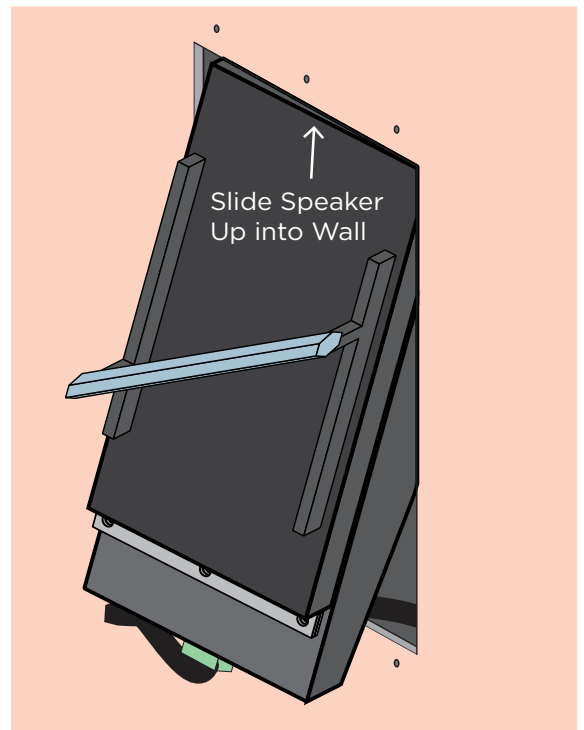

Figure 10.
2. Grasp the installation handle mounted on the speaker and insert the speaker into wall. Slide speaker up into wall until bottom of speaker can be inserted into cut out hole. See Figure 10.